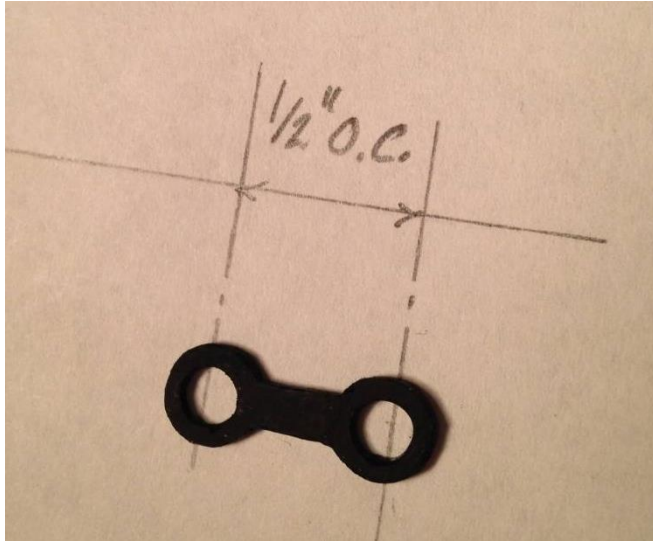

Figure 2
2. **New Drawbar** – I fabricated a new drawbar from .040" thick styrene (see figure 2 below). I drilled two  $\frac{5}{32}$ " dia. holes @  $\frac{1}{2}$ " o.c. to fit over the nipples in the engine and tender frames.